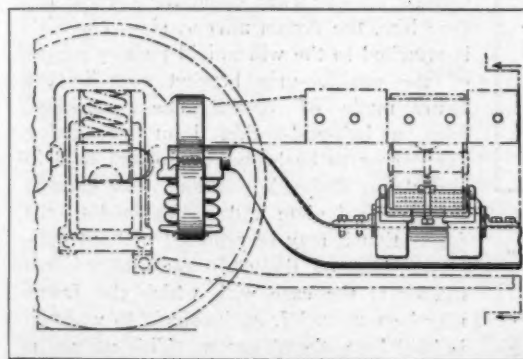

Fig. 1—W. S. Adams' car truck
2. The patent covers a car truck (Fig. 1) having a frame with side bars, links pendant from the side bars and rigidly connected therewith, springs supported by said links, a cross bolster, longitudinally extending equalizing bars and means for pivotally supporting the bolster on the equalizing bars and the latter on the springs.